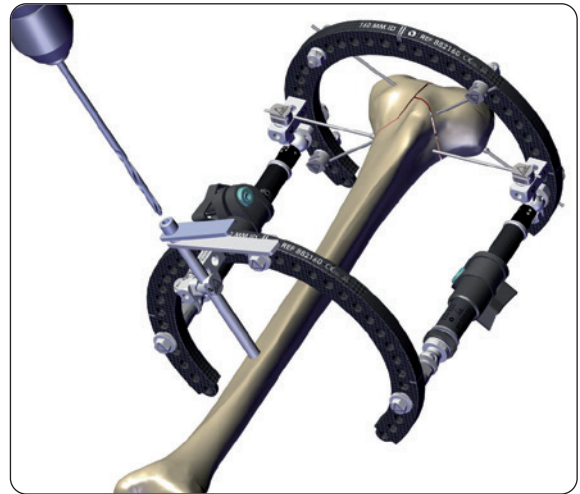

Fig. 7a
2. Insert the drill guide and the drill bit through the screw guide (**Fig. 7a**). Slightly tighten the nut on the half pin fixation bolt to keep desired orientation of the screw guide.